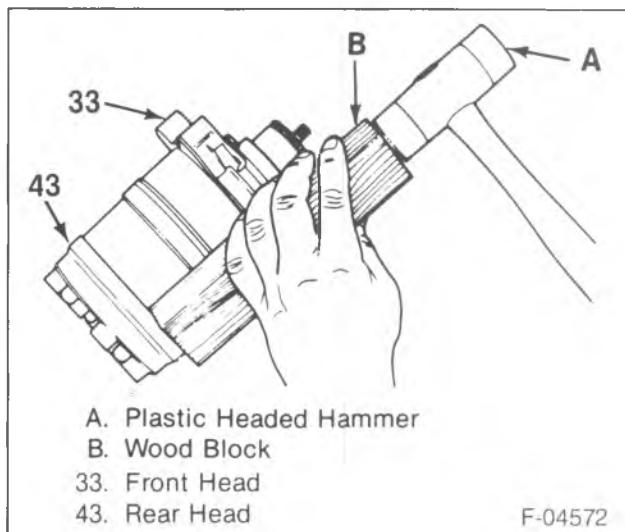

Figure 26—Tapping the Front or Rear Head Free of the Cylinder
1. Clutch drive and hub assembly (22).
2. Pulley (26) and bearing (25).
3. Clutch coil assembly (27).
4. Shaft seal (29).
5. Through bolts (31).
6. Front head (33) from the shaft and cylinder body (38).
- Using a wood block, tap around the edge of the front head (33) to remove.
7. Rear head (43), head gasket (42), rear valve plate (41), suction reed plate and cylinder-to-rear head seal (39).
- Using a wood block, tap around the edge of the rear head to remove (figure 26).